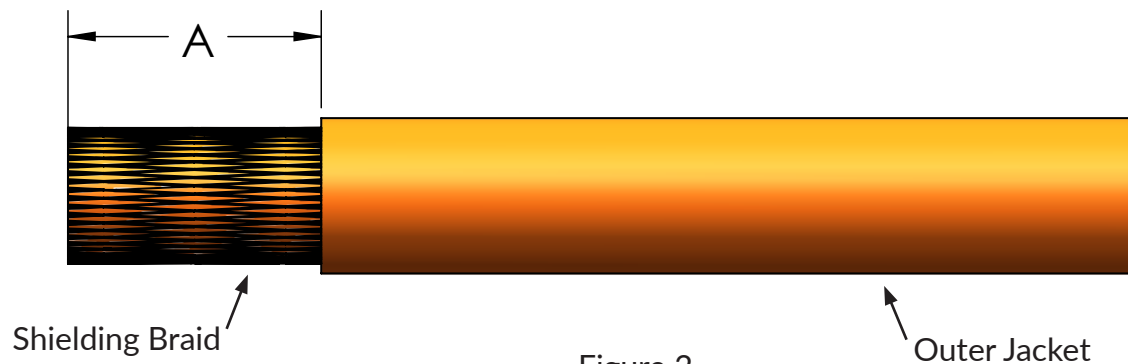

Figure 2
1) As figure 2 shown, strip the outer jacket per table 1 dimension “A”, the shielding braid not allowed to be damaged when the cable stripped;